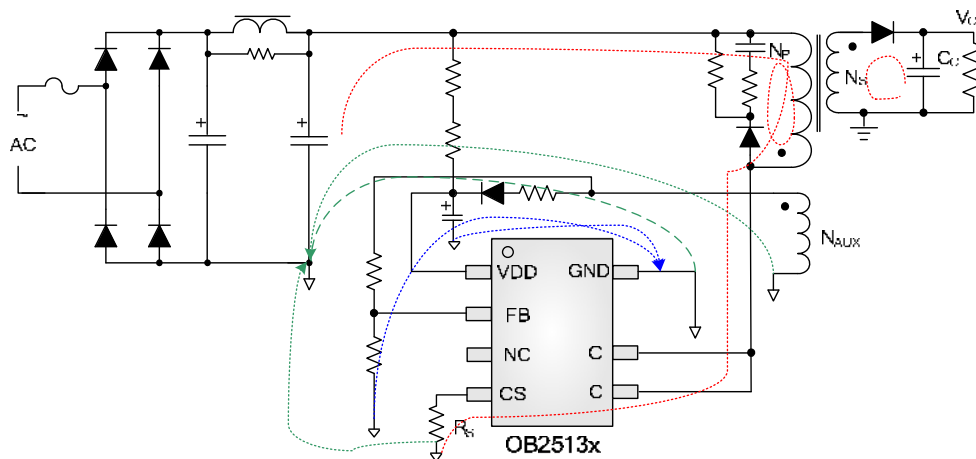

Fig.5 Flyback Schematic with OB2513x
- **The Area of Power Loop:** The area of the main current loop should be as small as possible to reduce EMI radiation, such as the primary current loop, the snubber circuit and the secondary rectifying loop (Red wire as shows in Fig.5). Drain pin increases the copper area of the drain terminal for heat dissipation (Green region as shows in Fig.6). And the PCB trace must be wide and short for thermal consideration.